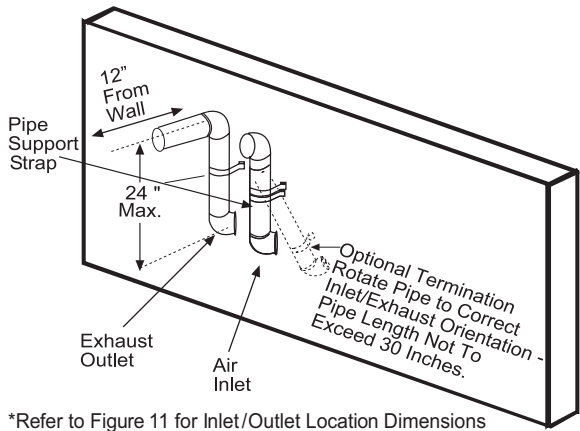

**Figure 18**
6. If the air intake pipe is installed up to the wall, with a coupling on the end against the wall opening, the pipe with the air intake terminal can be prepared for gluing before inserting through the wall. Slide the pipe through the wall and insert into coupling on the other side of the wall. See Figure 18 and Figure 19.